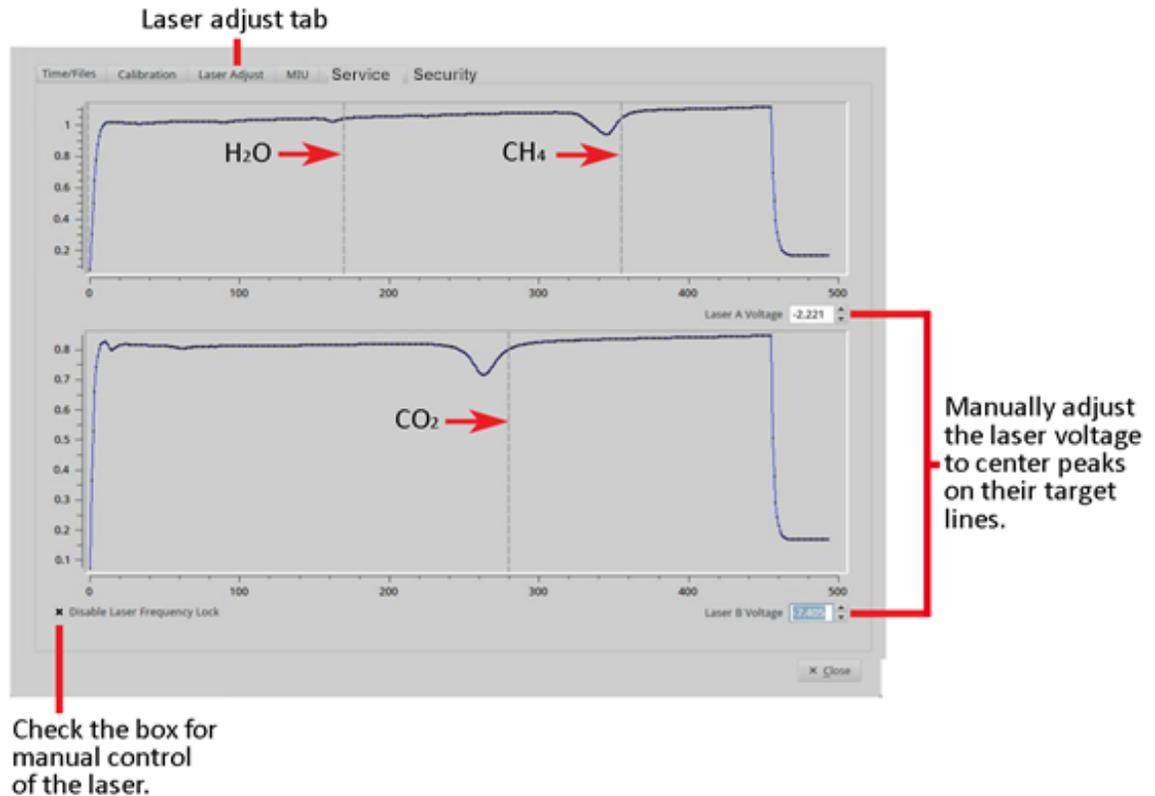

Figure 42: Absorption Peaks off Target Lines – Voltage Adjustment Required
Click the **Laser Adjust** tab to access the *Laser Adjust* screen. Use the *Laser Adjust* screen to manually adjust the laser's wavelength, to compensate for any cumulative drift. (Figure 42)
Figure 42 shows an example of a GLA131-GGA with an offset between absorption peaks and target lines for laser A (top plot) and laser B (bottom plot). Both lasers require adjustment.
2. Select the **Laser Adjust** tab at the top of the screen. (Figure 42)